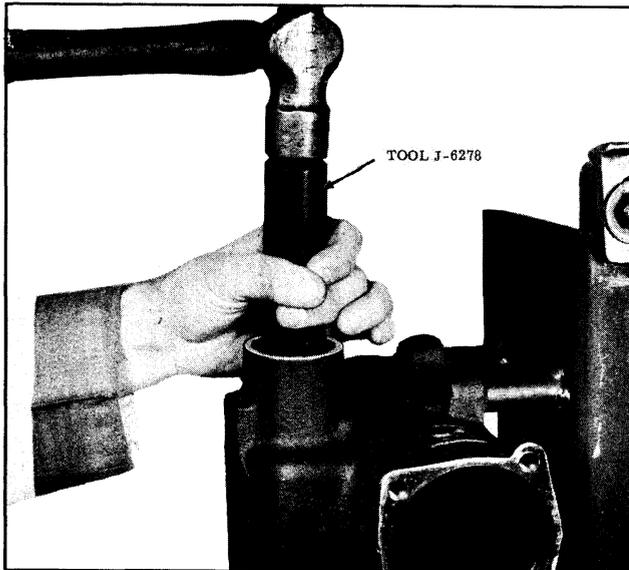

Fig. 5-47 Bushing Removal
2. If pitman shaft bushing replacement is necessary, drive bushing out with Tool J-6278. (See Fig. 5-47)